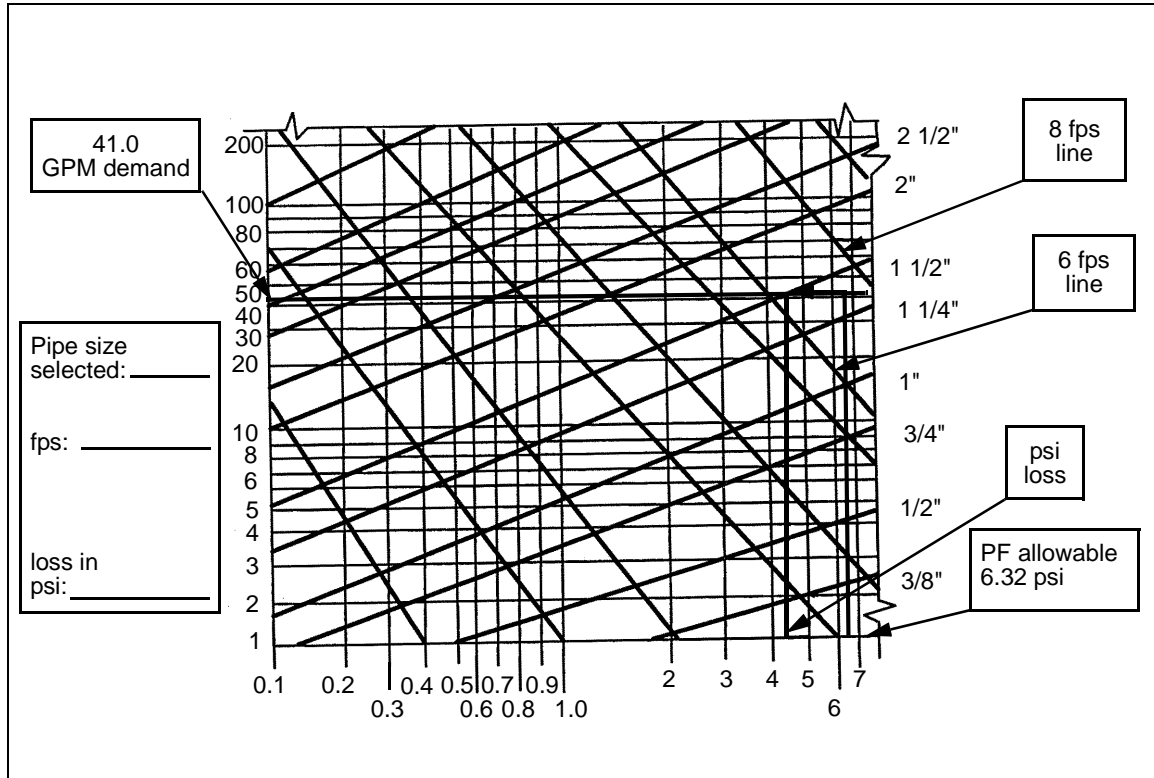

Figure D-1. Friction Loss Using a Fairly Smooth Pipe
D-2. Refer to *Figures D-1 through D-5, pages D-7 through D-11*, to design and draw a water service line. These figures can also be used to determine pipe sizes.
D-3. Use the following steps and *Figure D-1* to determine the size of the pipe, the velocity, and the friction loss from Point A to Point B:
Find the fluid's actual velocity, which should be between 2 and 10 fps, and find  $PF_{actual}$  (from Figures D-1 to D-5, pages D-7 through D-11).
**Step 7.** Determine the equivalent pipe length (EL) for fittings. Go back to Step 4 and recalculate  $PF_{allowable}$ . If the pipe size changes in the appropriate friction loss table (Figure D-1 through D-5, pages D-7 through D-11), then find the new velocity and  $PF_{actual}$  from Figures D-1 through D-4. EL is negligible if there is 1,000 feet or more between fittings.